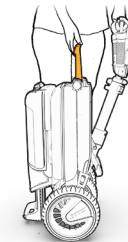

Figure 7
5. Hold ATTO by both the main handle and the handlebar (see Figure 7).